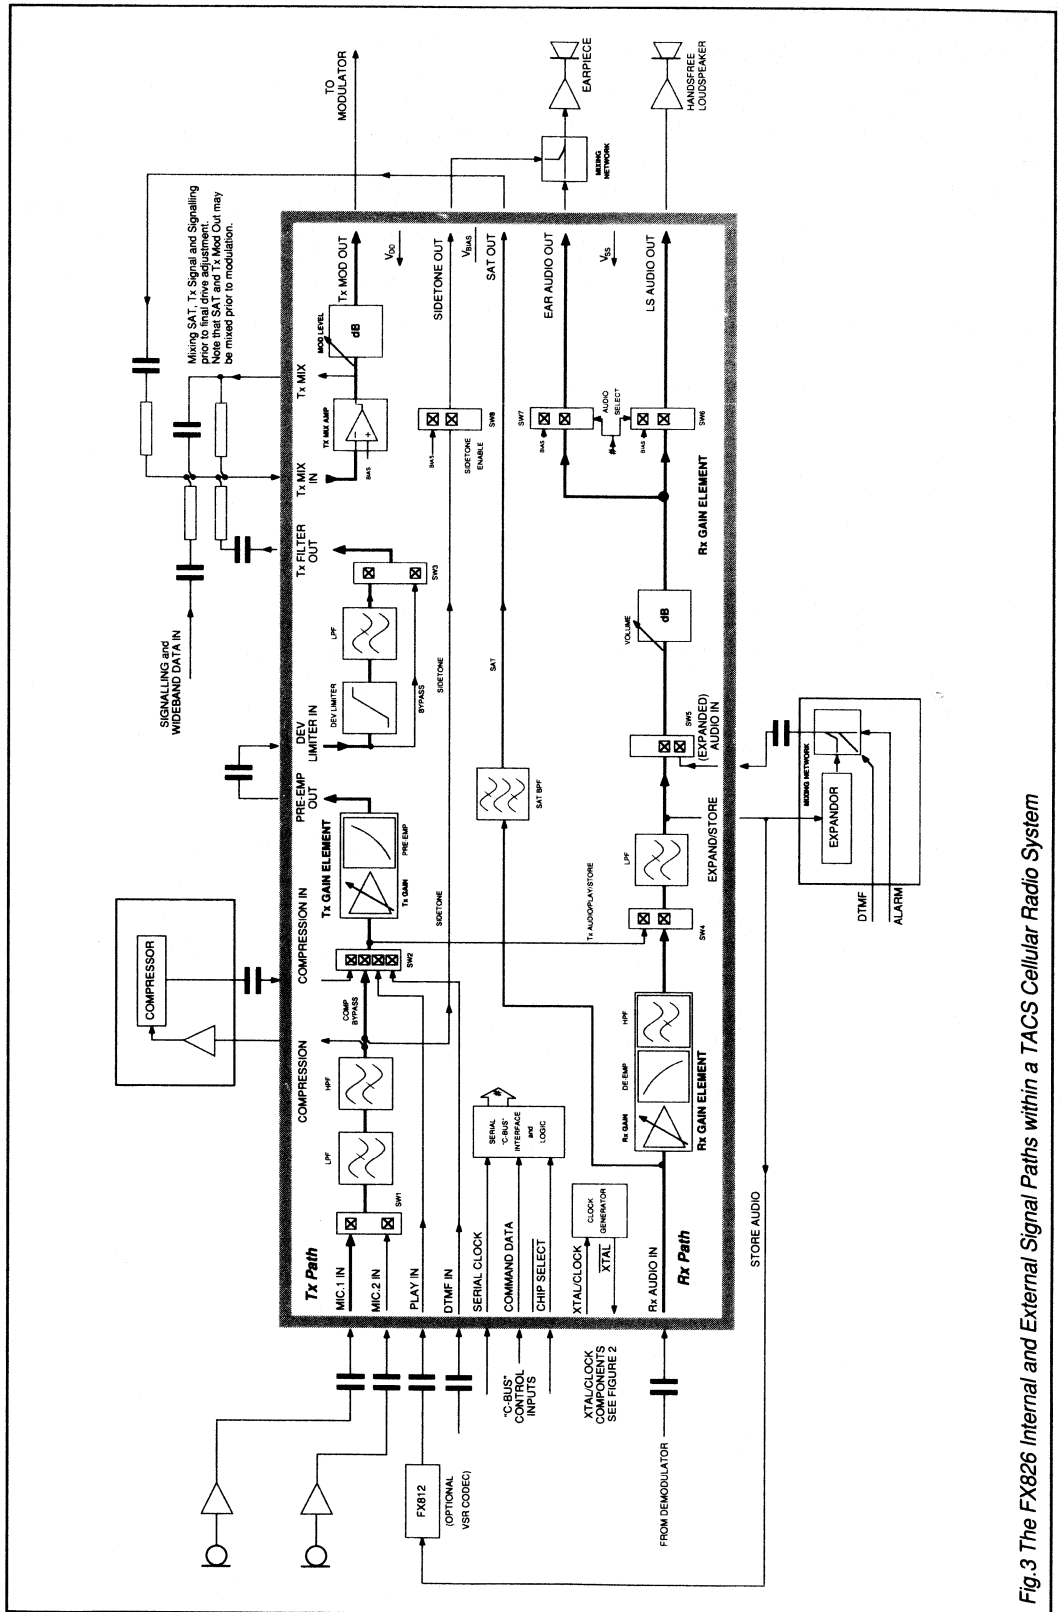

Fig. 3 The FX826 Internal and External Signal Paths within a TACS Cellular Radio System
1. With reference to the Powersave Command and Figure 3, all functions with the exception of the Rx Gain Element may be powersaved. This will still allow signalling data through the FX816 to activate the system via the  $\mu$ Processor.